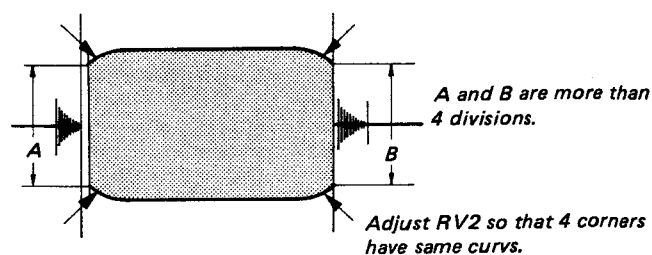

Fig. 5-108.
8. Adjust RV2 on BB board so that the four corners shown by arrows have same curve, and confirm that A and B are more than 4 divisions as shown in Fig. 5-108.